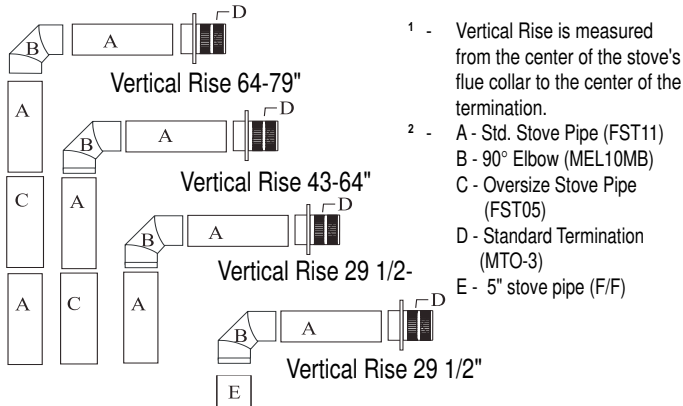

Figure 9. Possible venting configurations using the FSTK05 kit.
The horizontal venting option requires an FSTK05 Vent Kit. Figure 9 shows the components which are used to attain different vent heights. Additional stove pipe or Montigo Standard Series vent components may be used to increase the vent run, as long as the run still falls within the limits set out in Figure 8.
3. Install the first stove pipe onto the FST12 / FST14 ellipse section (refer to Figure 9). Secure the pipe with at least two 1/2" hex screws spaced approx. 3/4" from the joint. Slide the remaining vertical stove pipes into place, without fastening them.